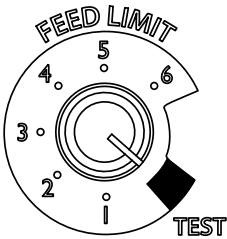

Figure 17
4. Adjust Feed Rate. If this is your first fire or you are trying different pellets, set the feed limit to #4, Figure 17. This is a conservative number and will probably need to be increased. After you know a feed rate setting that works well, use that setting. Remember, if your feed rate is too high you may waste fuel.